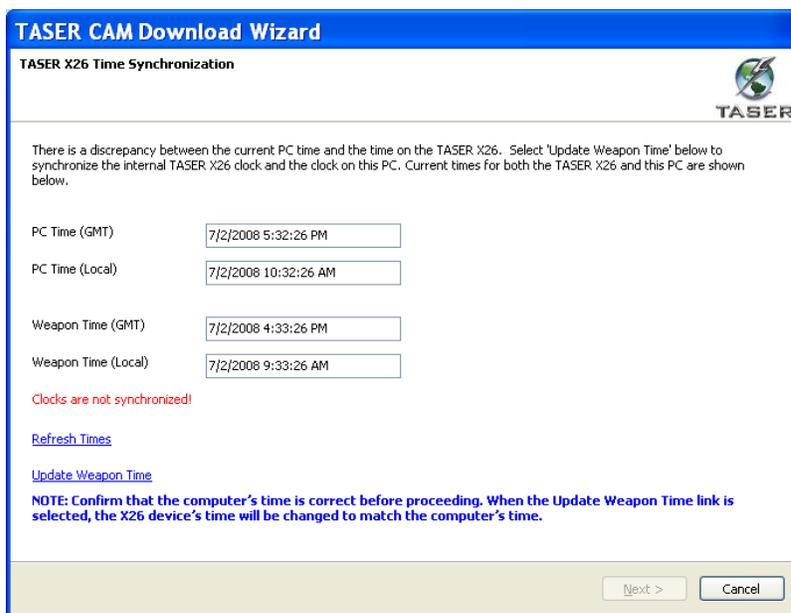

Figure 17
- If a weapon is connected, the software will verify that the time on the X26 is correctly set. If it is not correct, you will be prompted to change the time (Figure 17). Verify that your PC time is correct and if necessary, click **Update Weapon Time** to set the time correctly.